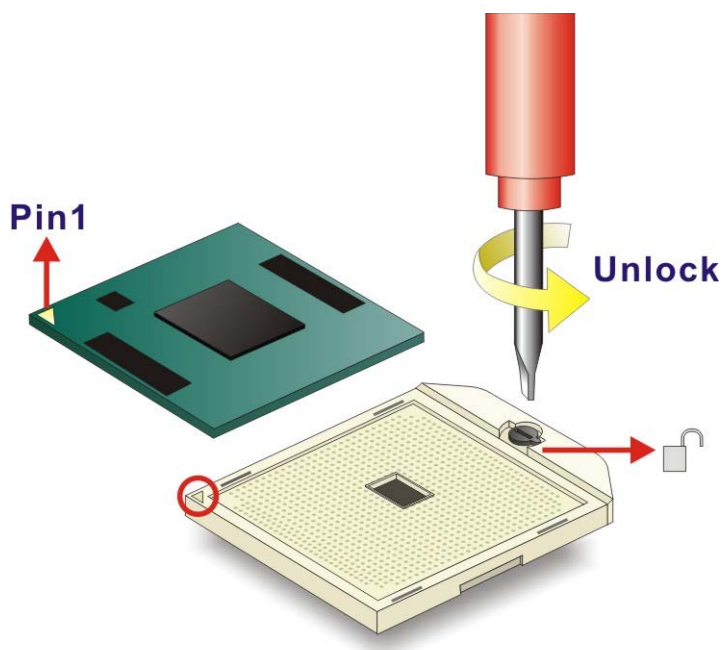

Figure 4-1: Unlocked Retention Screw
See **Figure 4-1**.
- Step 4:** **Correctly position the CPU.** Match the Pin 1 mark on the CPU with the marked corner on the CPU socket. See **Figure 4-1**.